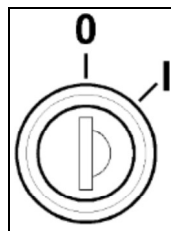

Fig. 23
- Insert the key in the key switch (Fig. 23).